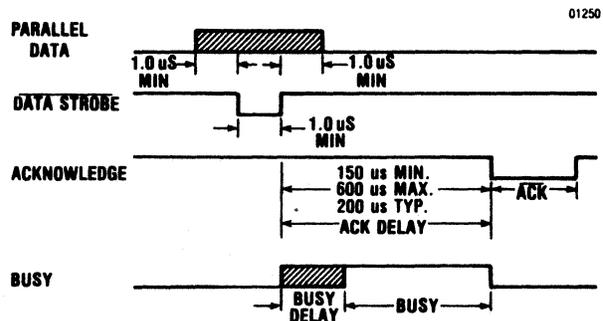

Figure 8-1 Parallel Interface Timing Diagram
**DATA STROBE**—Data strobe is a negative or positive going pulse used to transfer the incoming parallel data into the printer logic. The pulse duration of the signal must be a minimum of 1.0 microsecond. The leading and trailing edges of data strobe and the input data must be as shown in Figure 8-1.